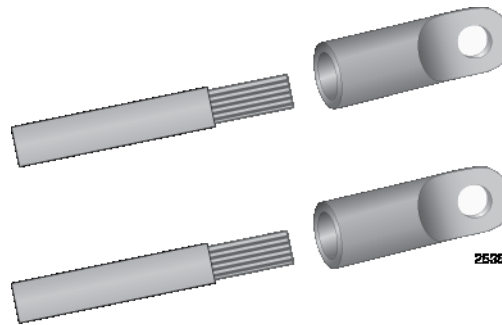

Figure 69. Attaching the Power Wires to the Straight Terminal Lugs
2. Insert the power wires into the terminals included with the power supply and use a crimping tool to secure the wires to the terminals. See Figure 69.